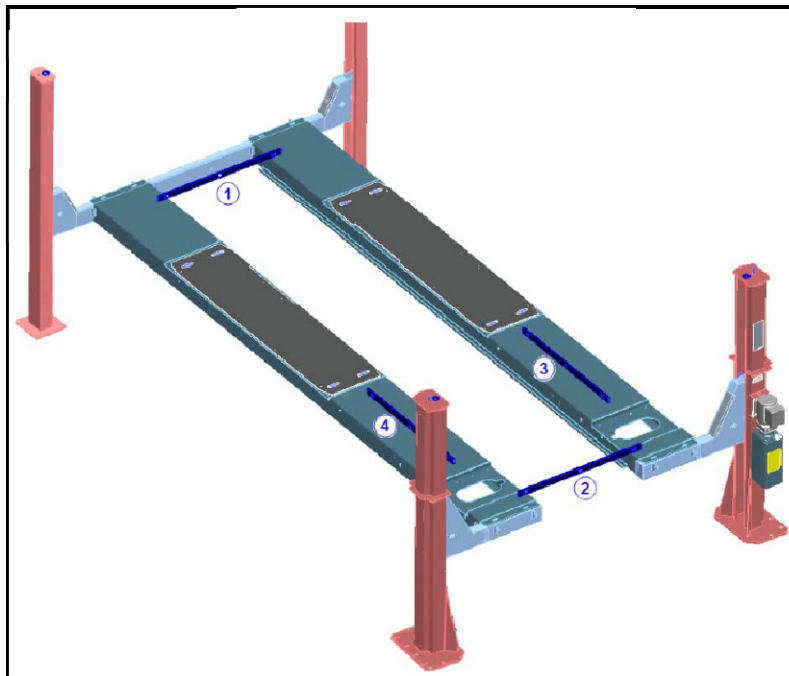

Figure 26. Deck leveling (Lift may not be as shown).
3. Determine the highest corner of the lift and adjust remaining towers to level the lift, front-to-back and side-to-side (See positions 1, 2, 3 and 4 in **Figure 26**). Use shims under tower base plate, as needed. Individual towers should also be leveled in both front-back and side-side directions.
2. Using a self leveling laser (or 4' level), check the level of the decks front to rear and side to side as shown in **Figure 26**.
5. Lower the lift onto the mechanical safety locks and verify level as shown in **Figure 26**. Make adjustments to safety ladder as necessary.